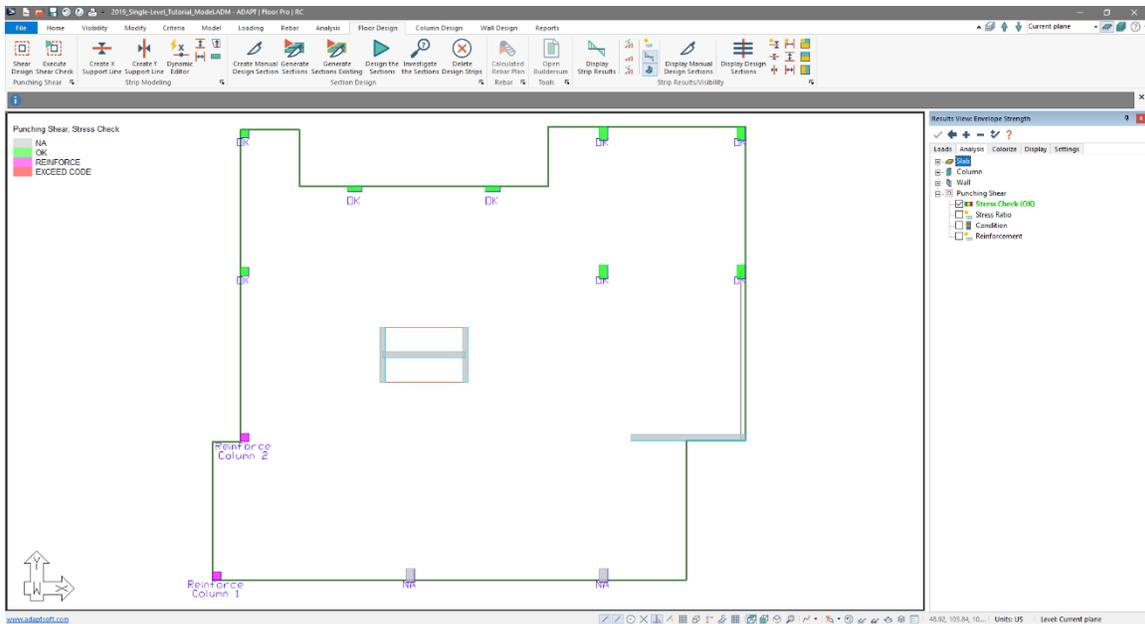

Figure 7-6
- The user should now see a screen like **FIGURE 7-6**. Note that the program will show if the column is OK (no need for reinforcement), Reinforce (two-way shear reinforcement needs to be added), Exceeds Code (column does not pass code checks even with added reinforcement), and NA (column was not checked for two-way shear).